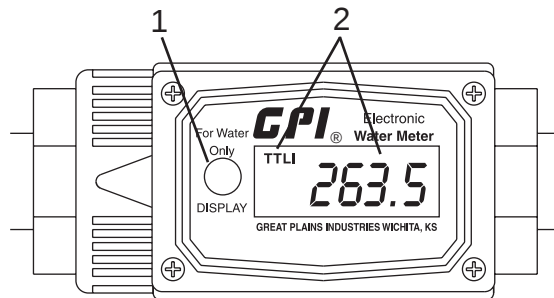

Figure 101
1. Activate the display by briefly pressing the DISPLAY button (Figure 101, Item 1).
2. Briefly press the DISPLAY button (Figure 101, Item 1) to change the total displayed - "Batch" mode (displayed as "TTL1") or "Cumulative" mode (displayed as "TTL2") (Figure 101, Item 2).
3. To reset the "Batch" total display, press and hold the DISPLAY button (Figure 101, Item 1) for three seconds.